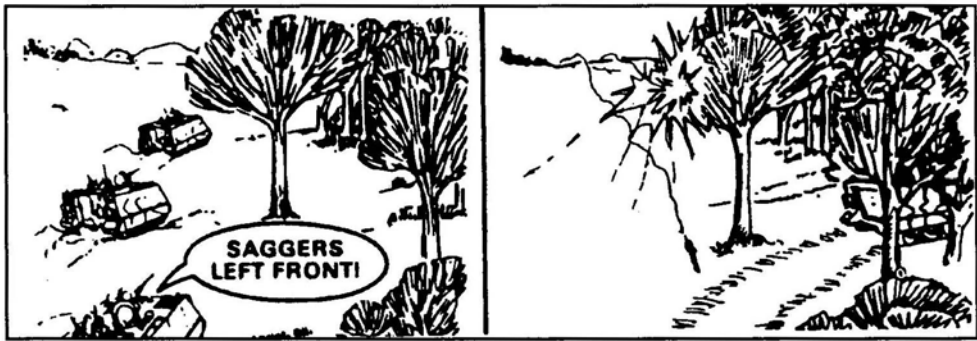

Figure 6. Use terrain.
- f. Where covered or concealed routes are not available, or when their use would be time consuming, plan routes that have "escape valves" available (Figure 6). The figure shows how a dense tree line provides protection from Sagger.